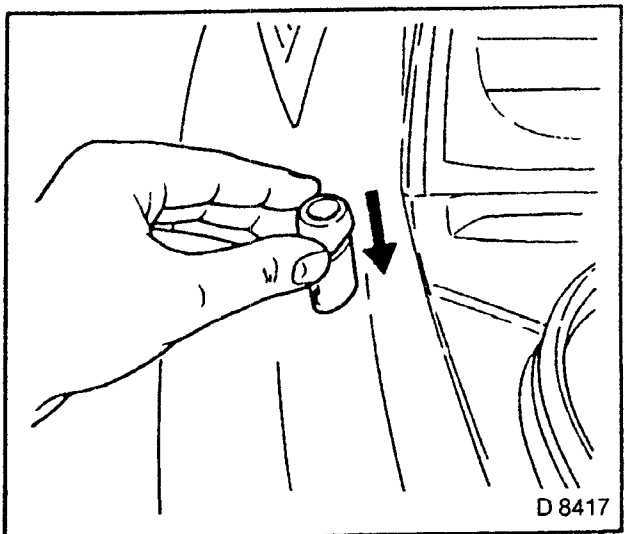

Fig. 6
3. Antenna hole closure plug (Fig 6 shows Astra).